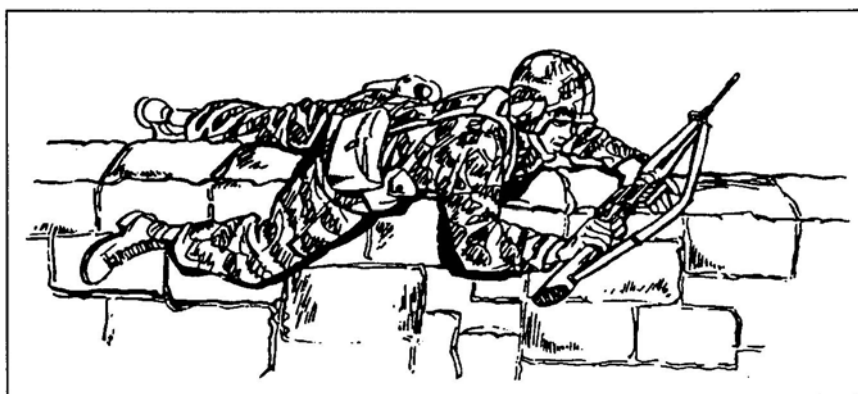

Figure 7
- (1) Before crossing a wall or fence, look at and beyond it for booby traps, enemy positions, and covered or concealed positions.
- (2) Move rapidly to the obstacle and roll quickly over it, keeping the lowest silhouette possible. Speed and a low silhouette deny the enemy a well-aimed shot.
- (3) Move rapidly to the nearest position while maintaining a low silhouette with the weapon at the ready position (Figure 7).